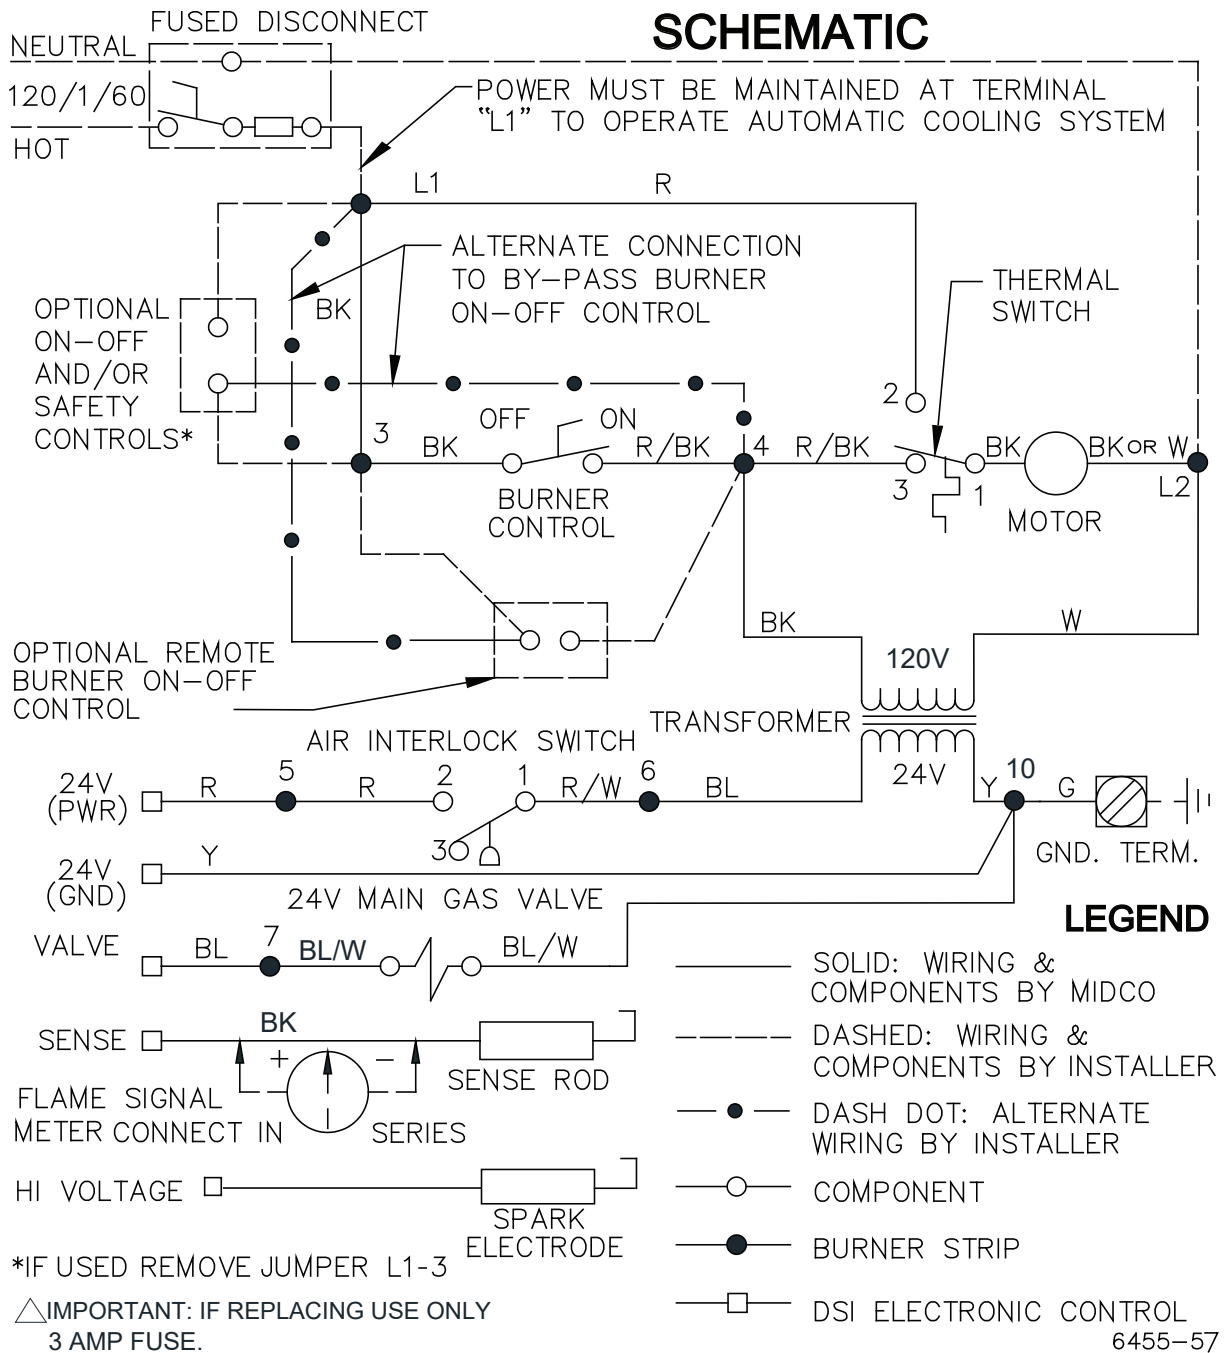

Figure 2A Wiring Diagram (6455-62)
**CAUTION:** In order for the automatic cooling system to function, power must be maintained to burner strip terminal L1. Do not install any safety or on-off controls in the circuit between the fused disconnect switch and strip terminal L1. Optional remote control devices should be connected in place of, or in addition to, the switch or timer as indicated in Figure 2A, 2B or 2C Wiring Diagram.